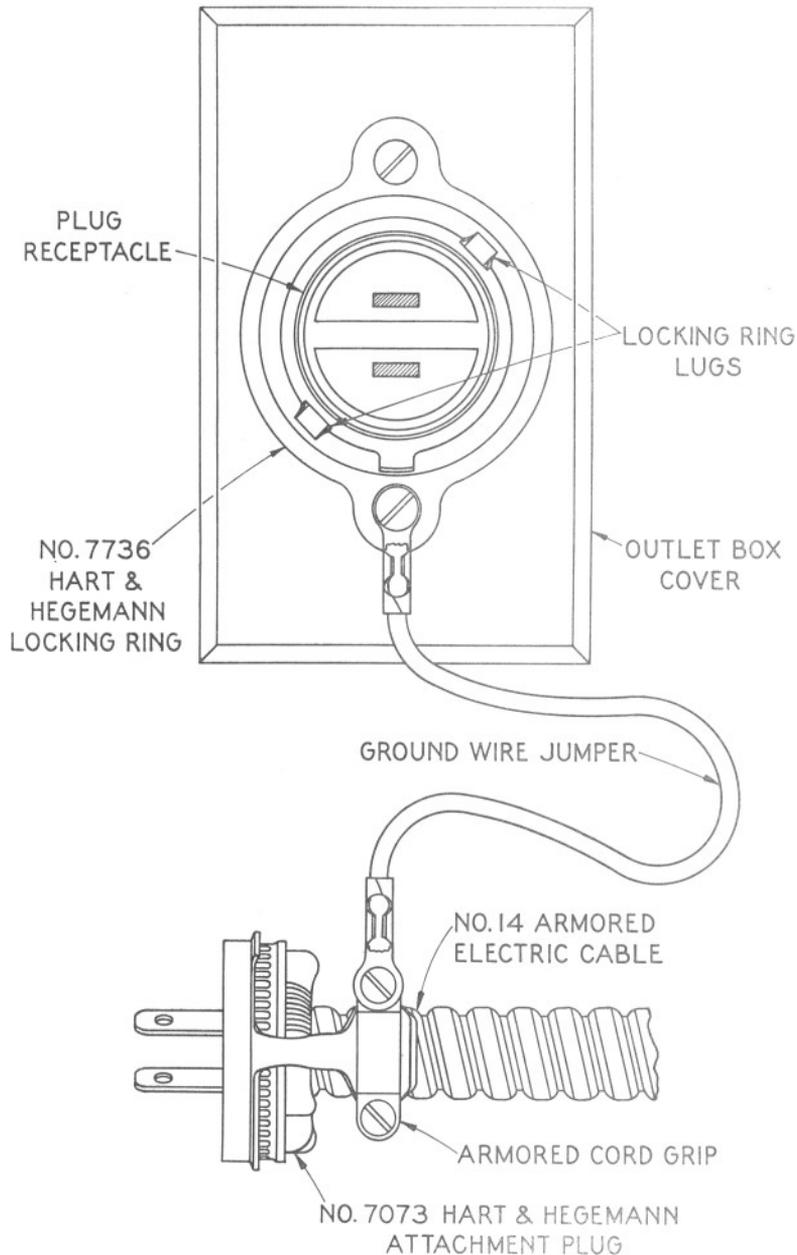

Fig. 7 – 2-wire Receptacle and Plug
5.09 A parallel blade, single not duplex, flush-type receptacle for 2-wire attachment plugs should be provided. Grounding is accomplished by terminating the ground wire jumper attached to the armor of the cable under one of the attachment screws of the locking ring as shown in Fig. 7.
5.10 Connection between the 2-wire receptacle and the booth lighting equipment is made with a 2-conductor armored flexible cable, the plug end of which is secured in the receptacle by means of a locking ring and locking-type plug as shown in Figs. 7 and 8.